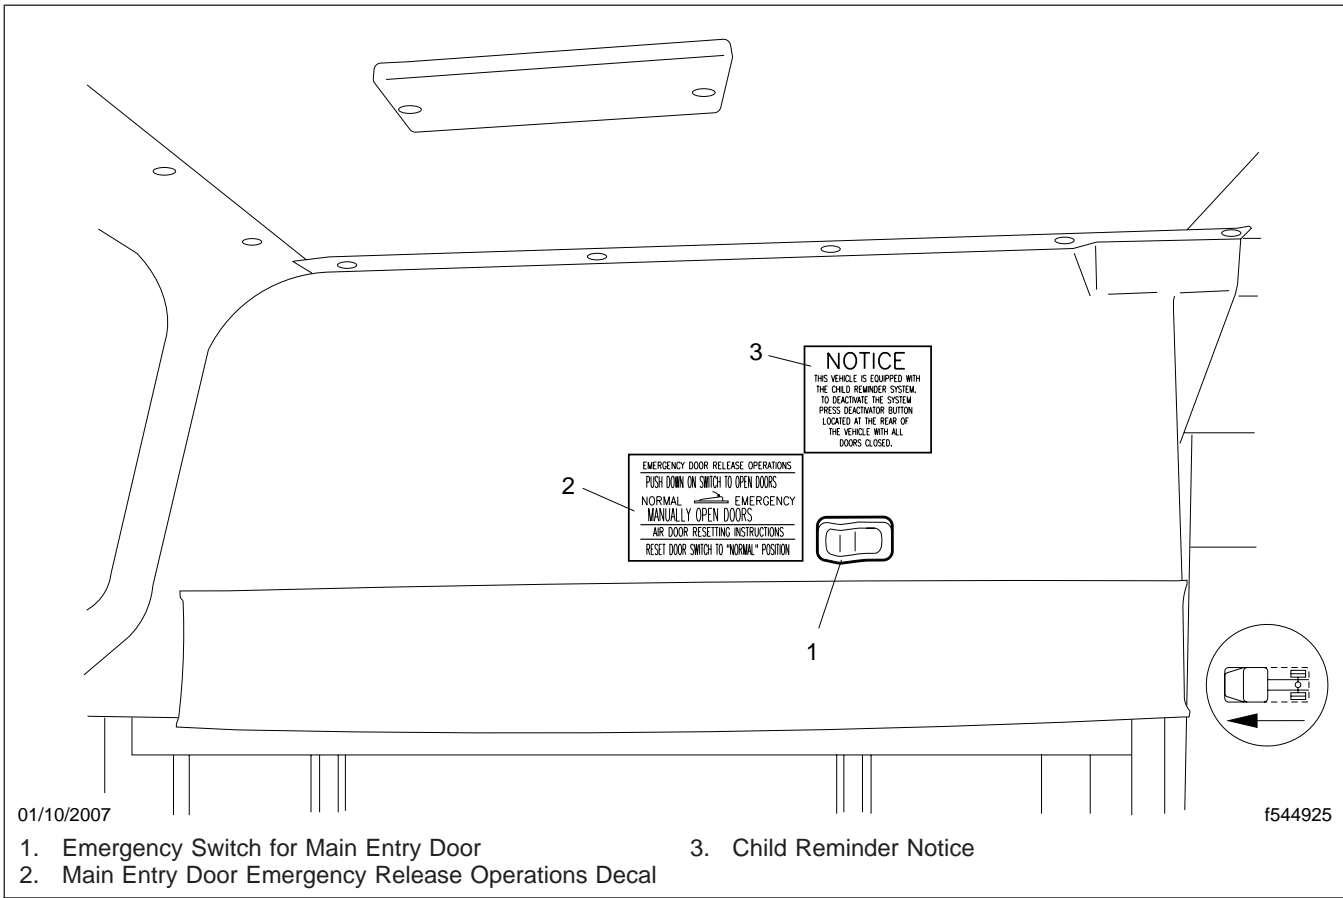

Fig. 2.4, Emergency Switch for Main Entry Door
- After entering the vehicle, activate the emergency air release rocker switch located above the door. See Fig. 2.4.
In an emergency, it may be necessary to use the red switch above the main door to open the door. Push down on the red switch to open the door, then push the door open. See Fig. 2.4 and Fig. 2.10.